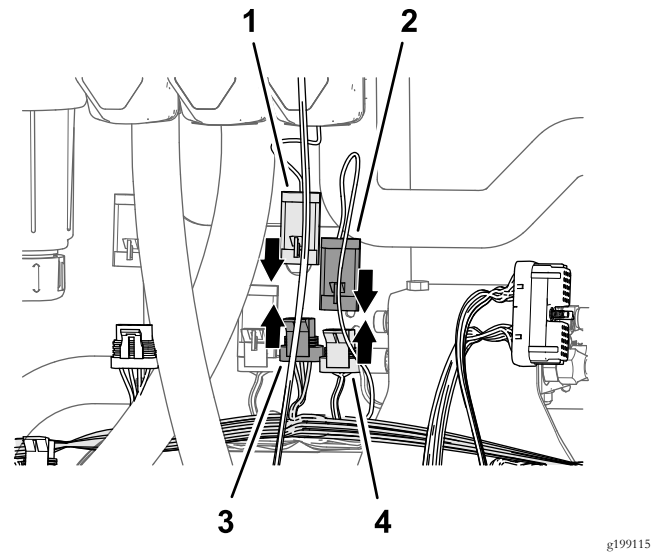

Figure 86
2. Connect the 3-pin connector of the 89 cm (35 inch) kit wire-harness branch labeled MASTER VALVE into the 3-socket connector of the machine wire harness labeled MASTER SPRAY VALVE (Figure 86).
3. Connect 3-pin connector of the actuator for the master-spray valve into the 3-socket connector of the 89 cm (35 inch) kit wire-harness branch labeled MASTER VALVE (Figure 86).